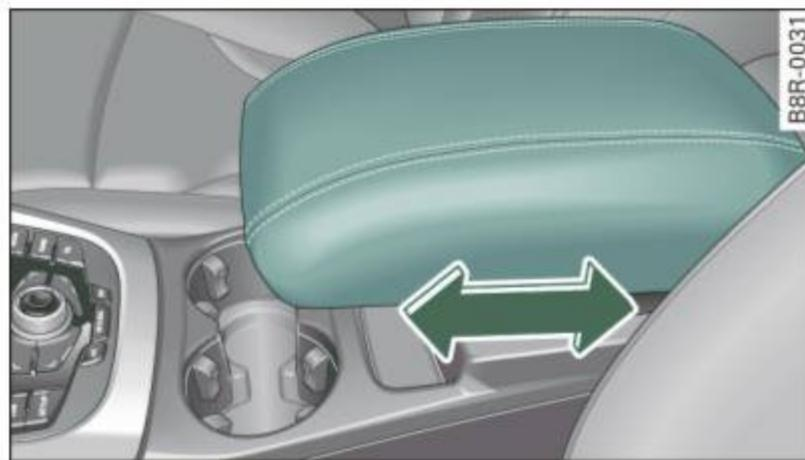

Fig. 76 Armrest between driver's and passenger's seat
- You can move the armrest forward or back ⇒ fig. 76.